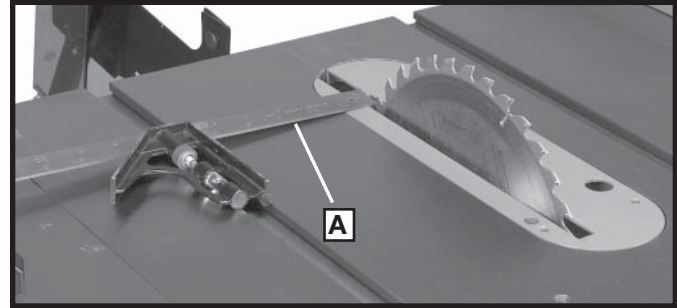

Fig. 67
2. Rotate the saw blade so that the same tooth you used in **STEP 2** is in the rear position, as shown in Fig. 67, and check this distance. Both the front and rear measurements should be identical.